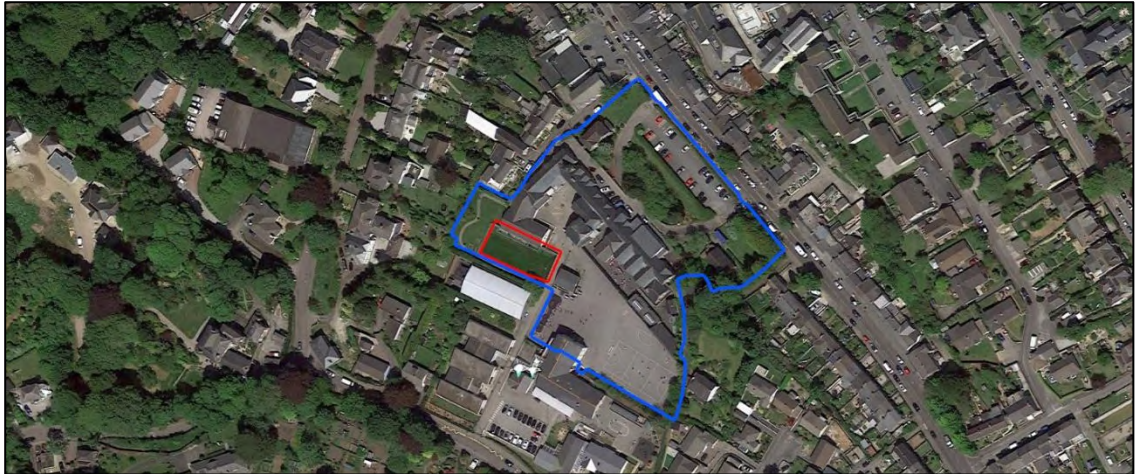

Figure 1: Wider Location Map, Junior School boundary shown as blue, proposed redline application shown as red outline. (Source: Google Earth)
- 2.1 The proposed development site is located at Trewirgie Junior School, Falmouth Road, Redruth, TR15 2QN (Figure 1 and 2). It is understood that the development is for the construction of a single storey double classroom block to provide additional space to the existing Junior School.